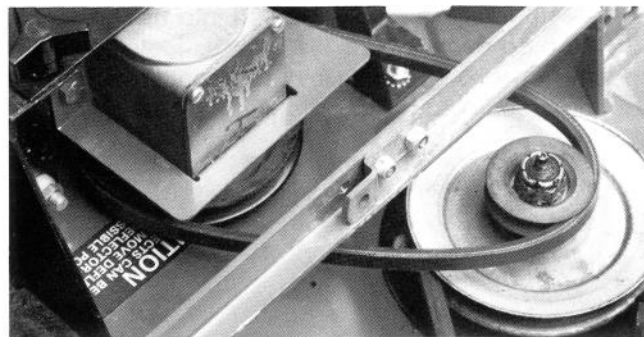

Figure 11
19. Route blower belt around small spindle pulley (Fig. 11).